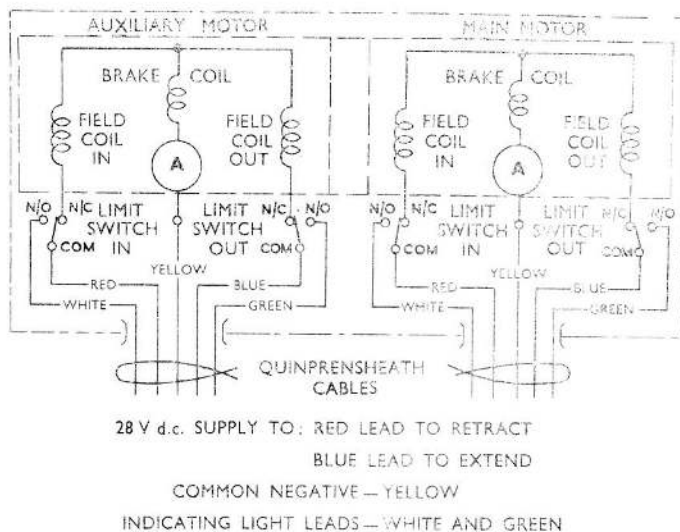

Fig. 5. Circuit diagram
18. The internal connections are shown in the circuit diagram in fig. 5.